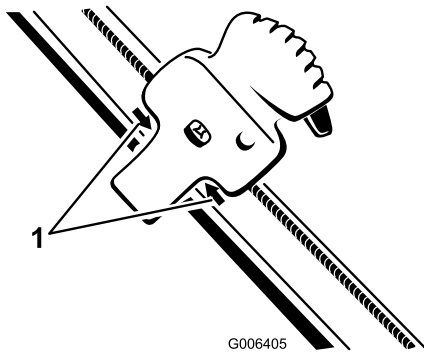

Figure 42
- Position the Quick Shoot control between the two arrows located on the right hand side of the upper handle (Figure 42).